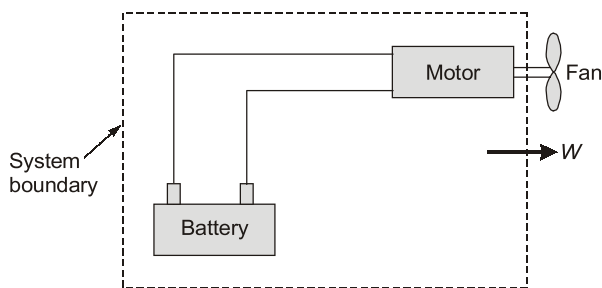

**Figure 2.1** Internal energy of a system is sum of all microscopic energies
- Consider a system which changes its state from state (1) to state (2) by following path A and returned via path B from 2 to 1. (Fig. 2.1)